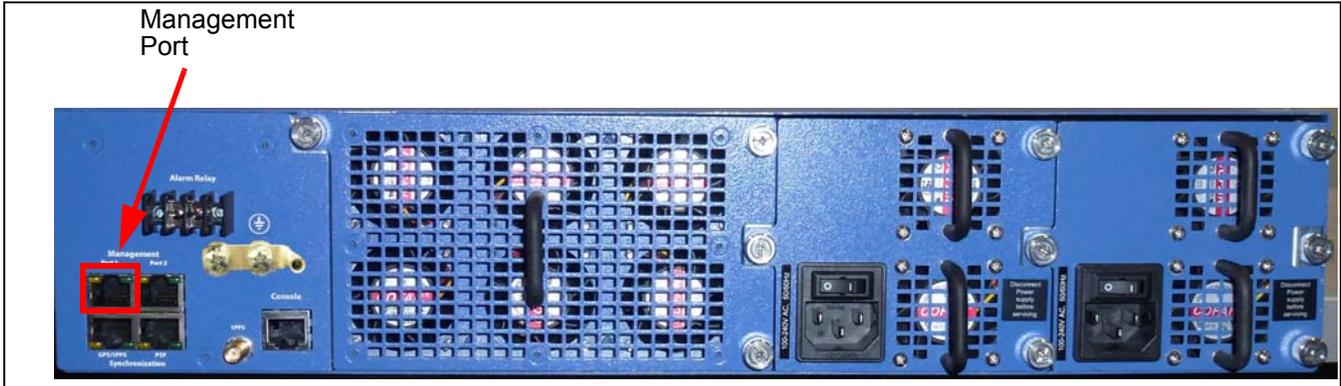

Figure 3.7 - IPB Rear Panel (AC Unit Shown)
8. Connect an Ethernet cable from Management Port 1 to the LAN/WAN (Figure 3.7). Make sure the switch/router is set to Auto/Full for negotiation. **If timing other than NTP will be used, extra cabling is required. Contact TekComms for assistance.**